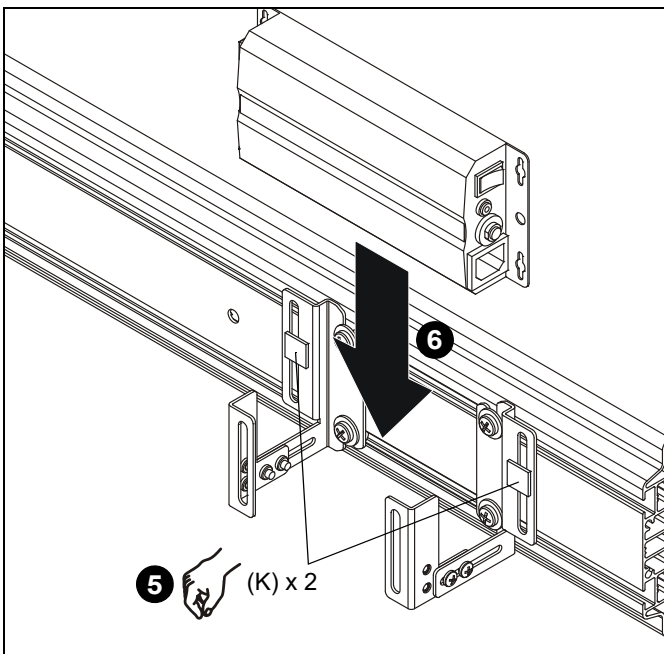

Figure 5
- Put hook and loop squares (K) together to form two squares.
- Attach hook and loop squares to brackets. (See Figure 5)
- Remove paper from hook and loop squares and place component on brackets, pressing it against hook and loop squares. (See Figure 5)